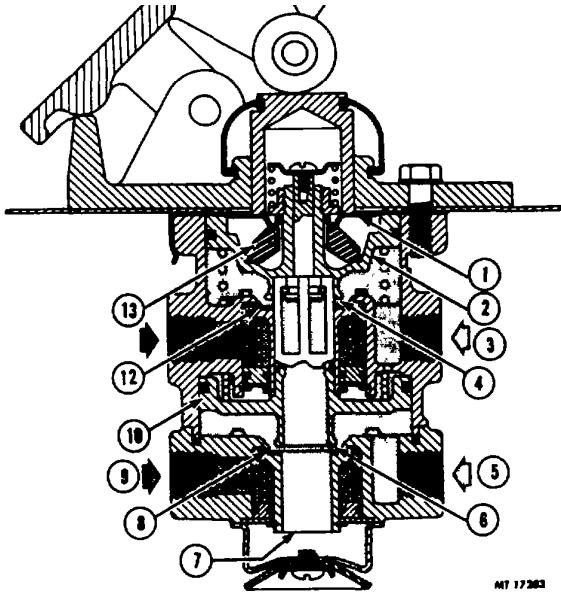

Fig. 7 Brake Valve Releasing
**Releasing - Primary Circuit of Brake Valve (Fig. 7)**
**Releasing - Secondary Circuit of Brake Valve (Fig. 7)**